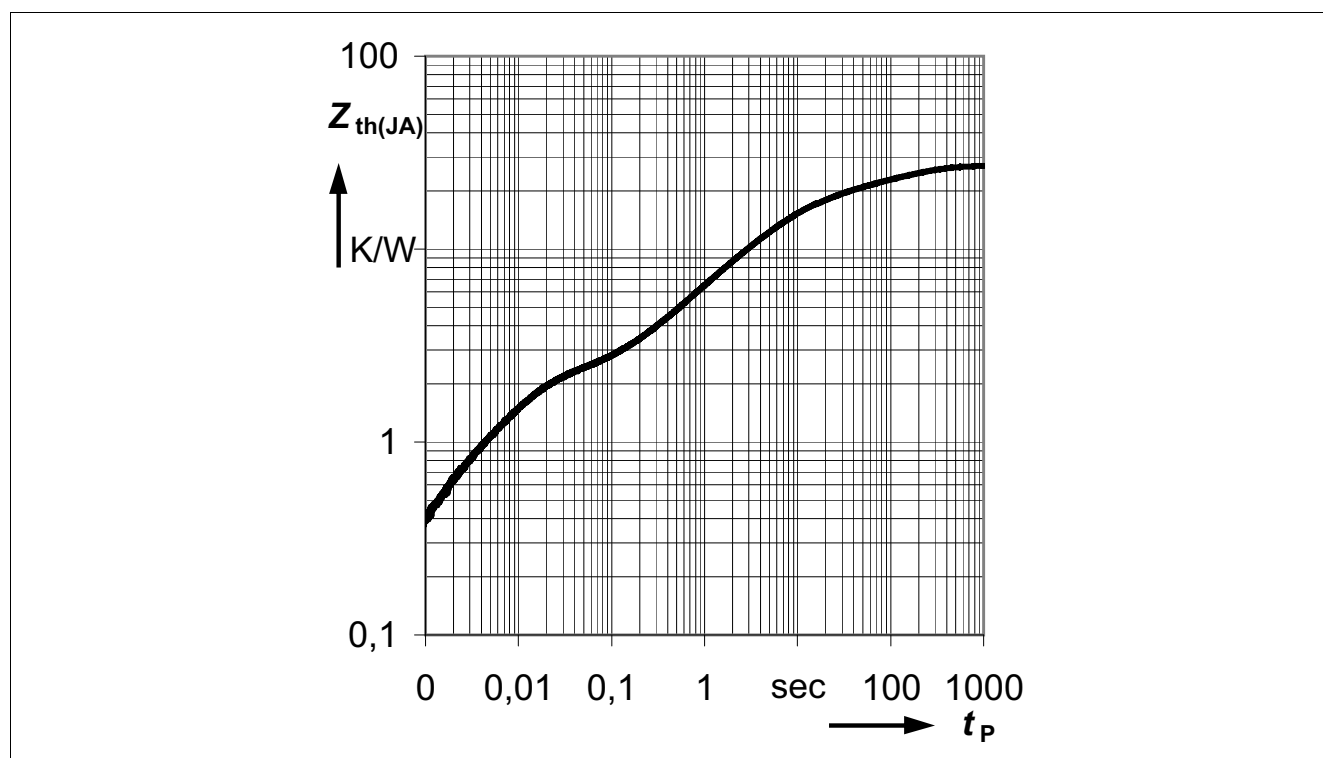

Figure 4 Transient Thermal Impedance $Z_{th(JA)} = f(t_p)$ ⁴⁾
4) Specified R_{thja} value and Figure 4 are according Jedec JESD51_7 at natural convection on FR4 2s2p board. The BTS50050-1EGA was measured on a 76.2 x 114.3 x 1.6 mm board with 2 inner copper layers (2 x 70µm Cu, 2 x 35µm Cu) applying power losses of 1.4W at the channel. According to JESD51-5 a thermal via array under the exposed pad contacted the first inner copper layer. $T_a = 25\text{ °C}$.
Figure 4 shows the typical transient thermal impedance of BTS50050-1EGA.